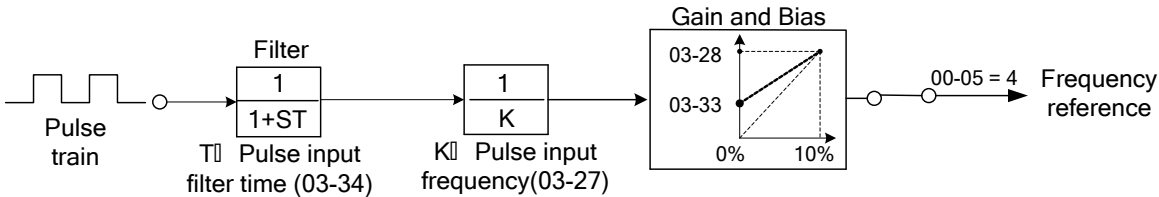

Figure 4.3.27 Pulse input adjustment
* Refer to figure 4.3.27 for the pulse input specification.